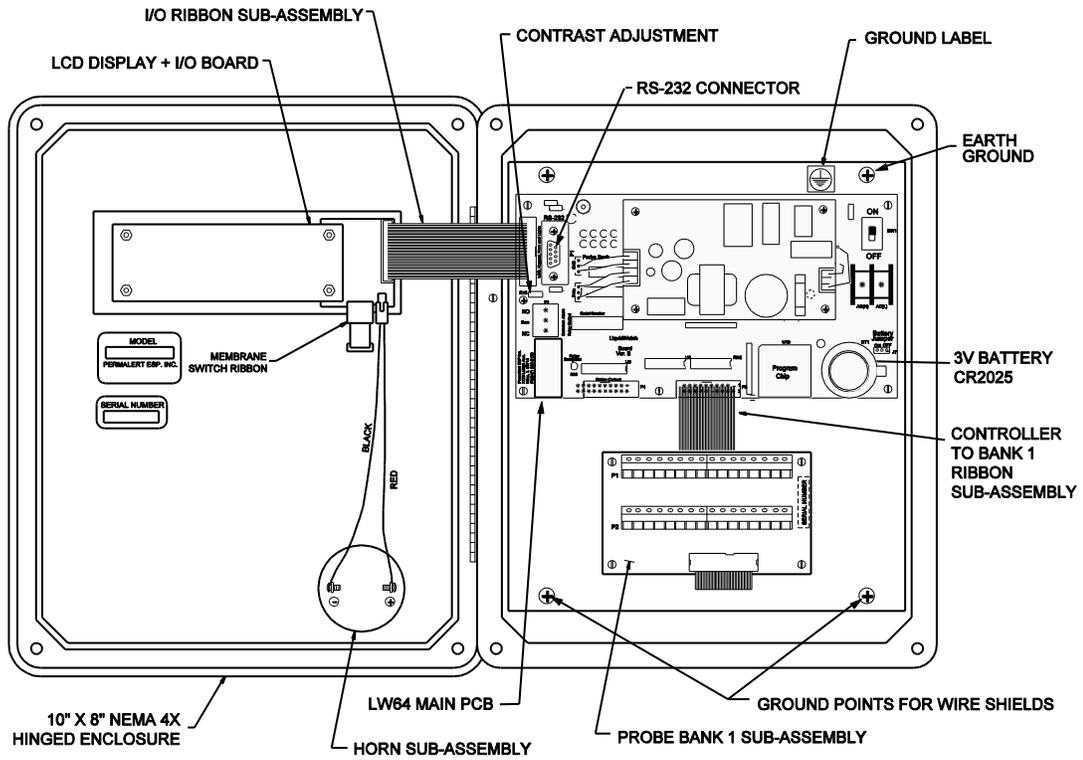
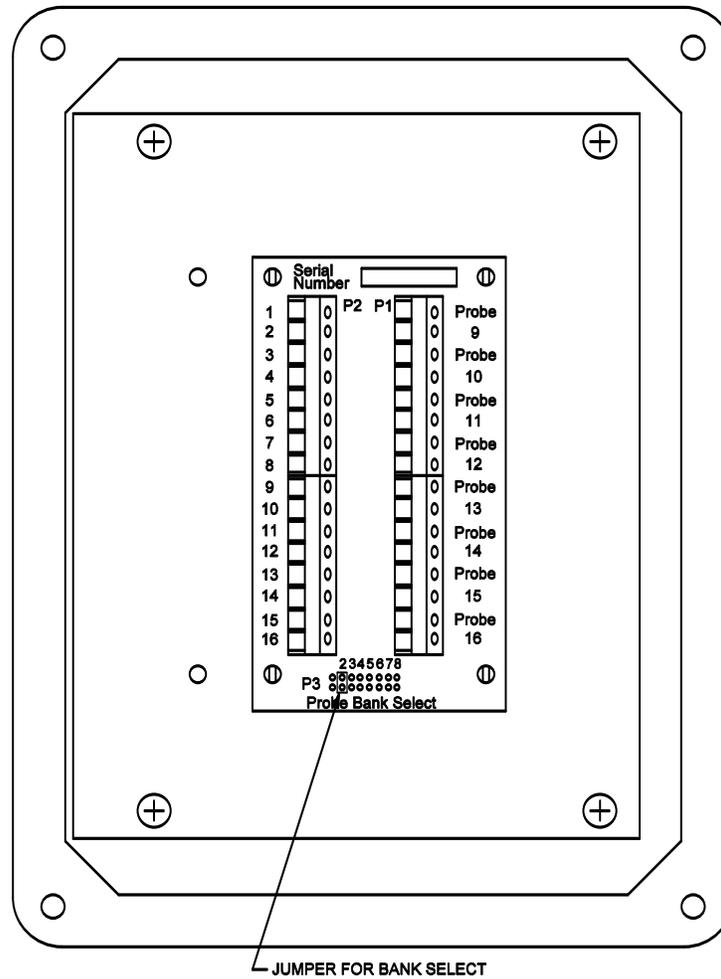

Figure 1
Figure 5
2. The power conduit entrance should be located in the upper right corner of the enclosure (see Figures 1 and 2). **Model LW64-IS must not have the power conduit in the lower portion of the enclosure, where it will interfere with the partition or the intrinsically safe wiring compartment.** Inspect and clean the interior of the enclosure before continuing. Connect all electrical conduits.
3. Wire the unit to an isolated (circuit breaker protected) 120 VAC, 50/60 Hz circuit. **Earth ground must be connected** solidly to the ground screw, which is located in the upper right corner of the LiquidWatch alarm panel back plate. **Failure to connect earth ground can result in faulty alarm panel operation.** See Figures 1 and 2 for LiquidWatch alarm units wiring diagrams.
There are ground wires that must be securely connected to the white backplate mounting screws. In each case, the external tooth lock washer should be placed against the white painted backplate and then the ring terminal placed on top of the lock washer (see Figures 1 and 2 for Ver. B LiquidWatch Controller Board):
LiquidWatch is provided with an RS-232 communications port. Refer to Figures 1 or 2 for the location. There is a 9-pin connector located on the controller board.
The LiquidWatch alarm panels are designed to monitor up to 64 probes. The 64 probes are organized in 8 banks of 8 probes. The standard alarm unit has probe bank 1 installed within the enclosure (see Figures 1 and 2). This can monitor probes 1 – 8, connected to terminal strip P1. If additional probes are monitored, remote probe modules (Model RPM-8) are required. Each RPM-8 has a bank select jumper, P3 that can be set to bank 2 through bank 8 and will monitor 8 probes as follows (see Figure 5):